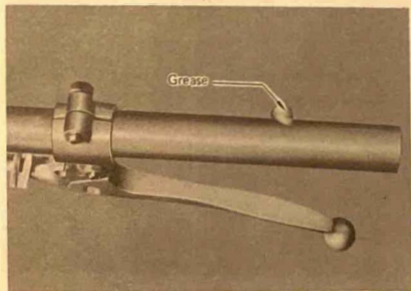

Fig. 27
12. Apply a light coating of grease to the right handlebar end and throttle grip housing. (Fig. 27)